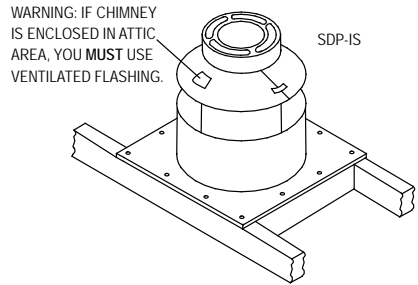

Figure 12
8. Install Attic Insulation Shield: Install the Attic Insulation Shield where the chimney passes into an attic. It's purpose is to prevent debris and insulation from getting too close to the chimney. (Figure 12). An installed Attic Insulation Shield is 14 inches high. In attic areas where this shield won't fit, a Square Support Box, (which is available in heights up to 36 inches), can be used instead of an Attic Insulation Shield, provided it reaches through the roof; refer to the **Roof Supported Installation section on page 14**. If the chimney is fully enclosed through the attic, an Insulation Shield is not required, however, again, Ventilated Flashing must be used.
- d. Nail the Insulation Shield to the top of the framed opening with at least two 8-penny nails per side. (**Figure 12**).